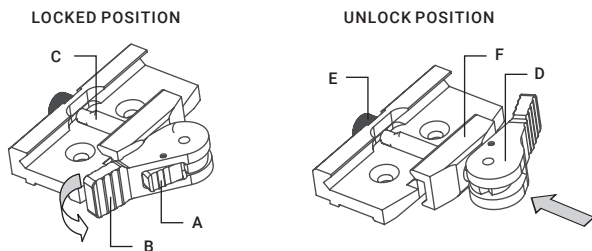

FIGURE 2-2. MOUNT. UNDERSIDE VIEW
3. Unlock the clamping device of the Comanche 40 mount by pushing down on the lever holder (A, see Figure 2-2) and unlocking the cam lever (B).
4. Install the Comanche 40 on the Picatinny/ Weaver rail in front of the day scope so that the stop (C) slides into one of the rail's transverse slots. The light suppressor should cover the day scope's objective lens.
5. Affix the Comanche 40 to the rail by locking the cam lever (B).